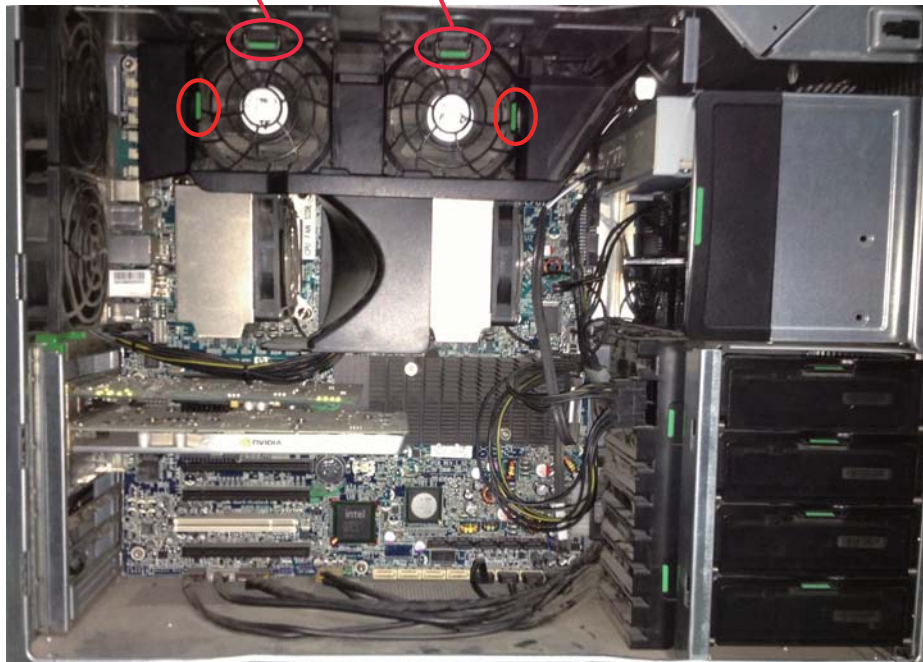

Figure 2-5 Memory Fan removal
- 3.) Remove the Memory Fan as shown Figure 2-5.